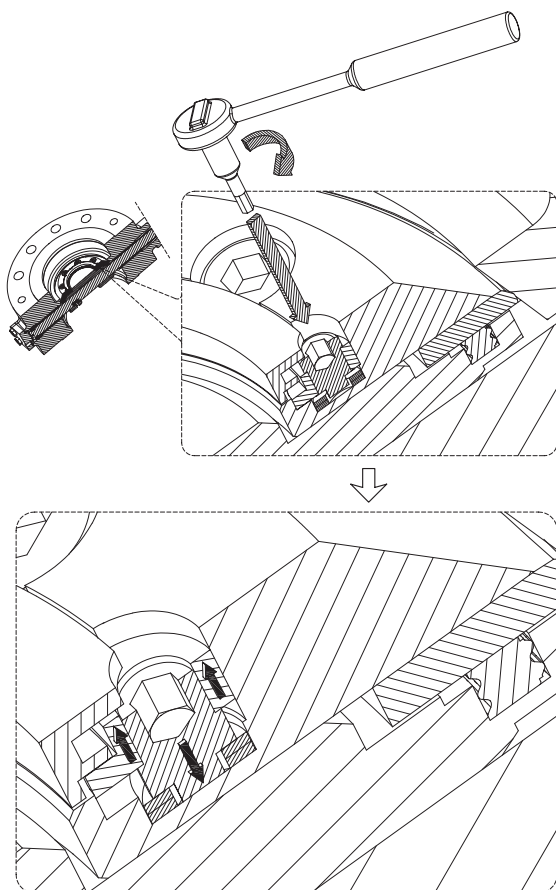

FIGURE 13
19. Engage each locking nut (2h) by turning the grub screw (2g) clockwise until it stops - figure 13: